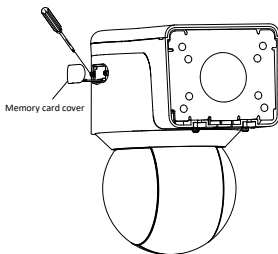

Figure 2-15 Open the memory card cover
1. Pull the decorative cover out and loosen 2 screws on memory card cover with screwdriver as shown in Figure 2-15.